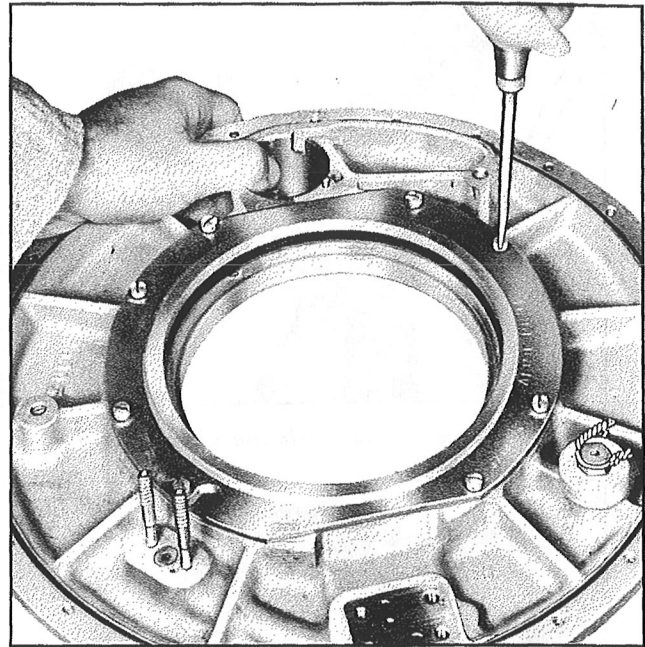

Figure 160—Installation of the Housing Seal and Bearing
*Step 23.*—Install the regulator cover bearing, tightening the 8 x 28 fillister head screws alternately and safety with .032" wire. See Figure 160. No bearings are used in Models A632S-A1, -A2.